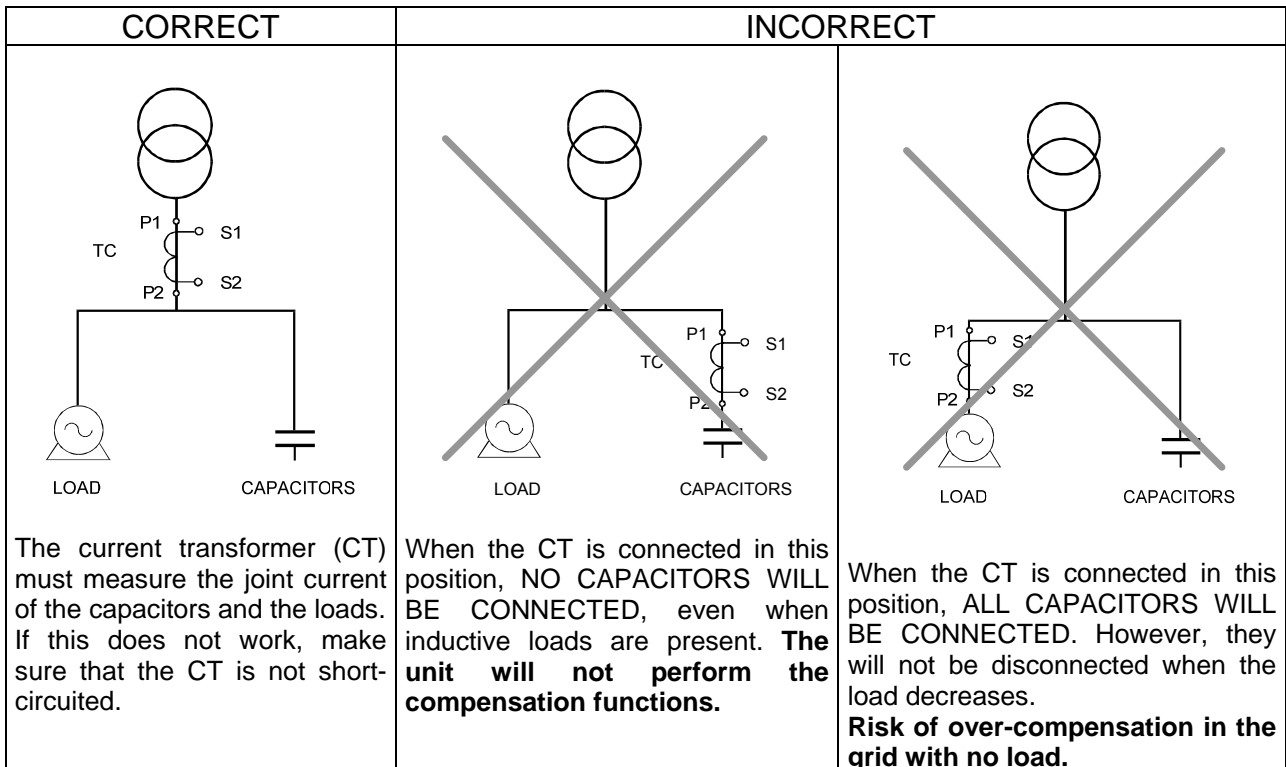

Fig. 2.1.- Location of the current transformer
The current transformer (CT) must be installed on the connection point where all of the loads' current circulates and where the current of the capacitors will be compensated (see Fig. 2.1).